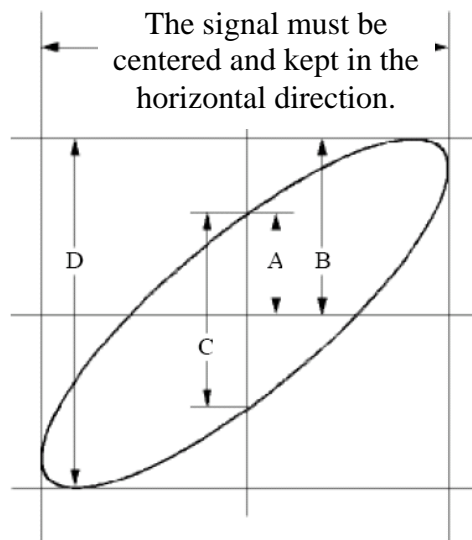

Fig.6-6 Lissajous Graph
3. Press **DISPLAY** to activate **DISP SET** menu, then F3 to select XY mode. Now the waveform is displayed as **Lissajou's curve**, adjust **VOLTS/DIV** and **VERTICAL POSITION** to get the best possible display, work out the phase shift as in Fig.6-6.